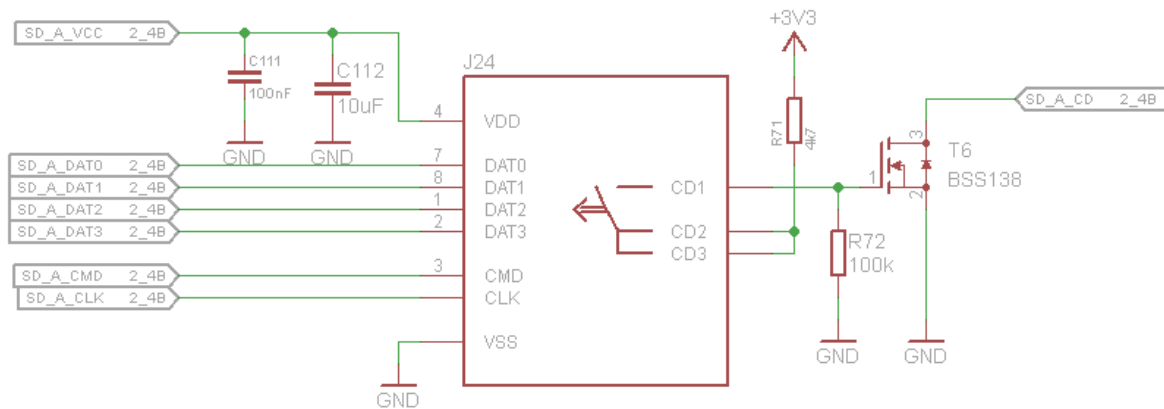

Figure 9: microSD Card Interface
- Figure 9: microSD Card Interface 26